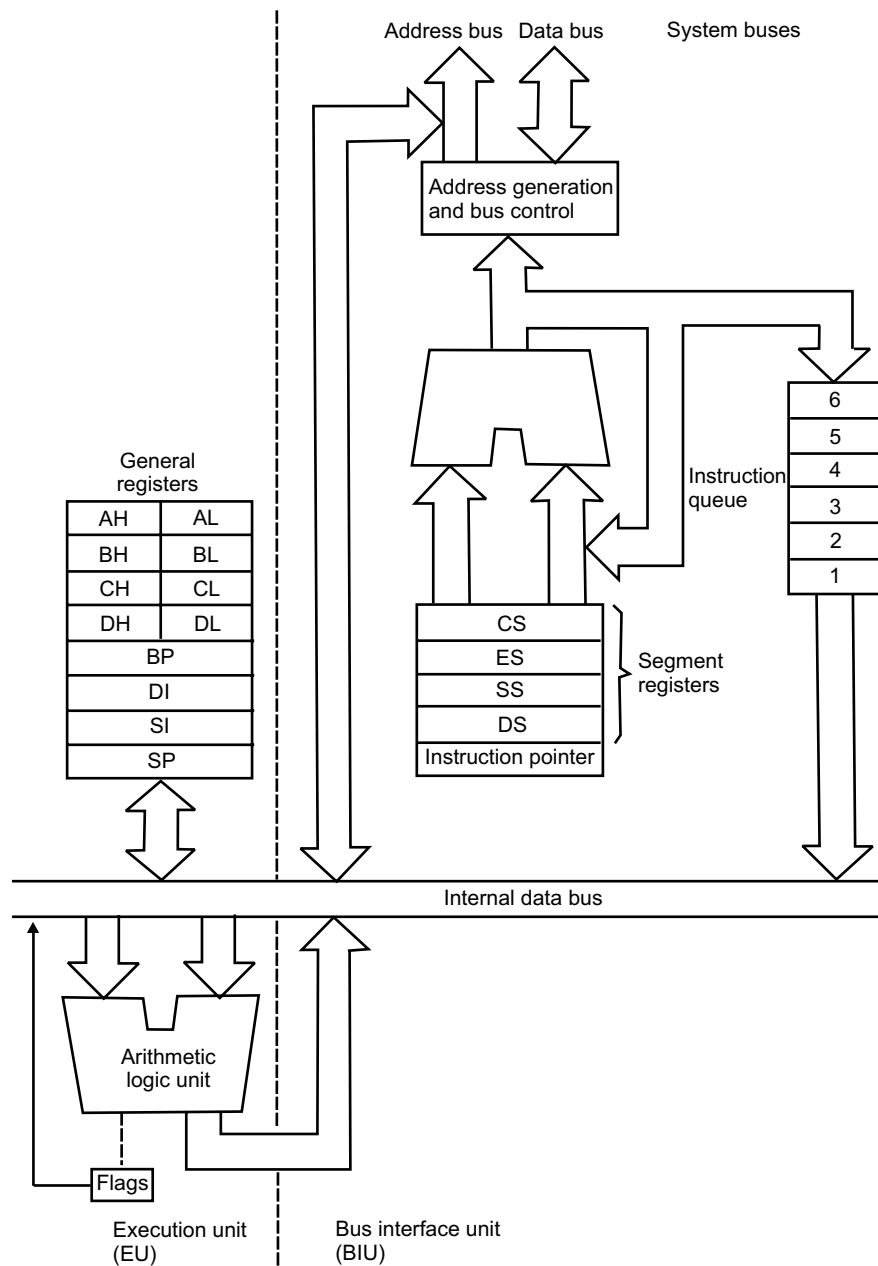

Fig. 11.3: CPU model for the 8086 microprocessor. A separate execution unit (EU) and bus interface unit (BIU) are provided.
Ans. The architecture of 8086 is shown below in Fig. 11.3. It has got two separate functional units—Bus Interface Unit (BIU) and Execution Unit (EU).